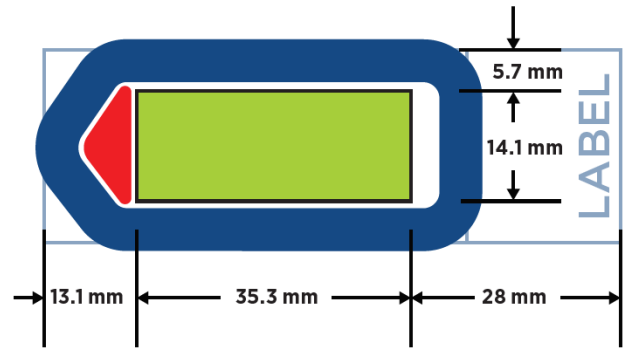

Figure 12: Slide dimensions
- Tissue sections must be placed in the **Scan Area** (shown in green) (see Figure 12) in the center of the slide and be **no larger than 35.3 mm long by 14.1 mm wide**. They should not overlap the slide gasket (shown in blue) or the Tip Calibration area (shown in red). If mounting multiple sections per slide, ensure that tissues are at least 2–3 mm apart and still fit within the Scan Area.